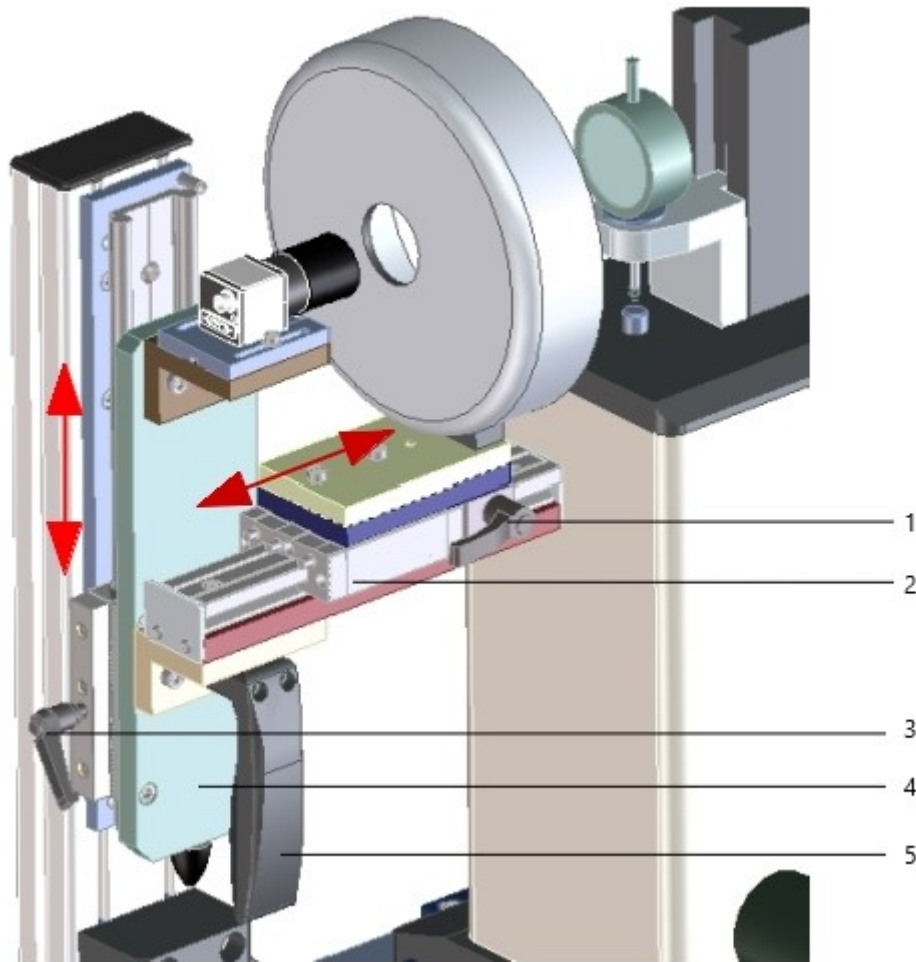

Fig. 5.2.5: Positioning of camera and lighting unit.
To position the lighting unit [Fig. 5.2.5], loosen the clamp (1) of the horizontal slide of the lighting unit (2) and move the slide horizontally until the rear side of the lighting unit is positioned in a distance of 1 - 2 mm from the camera lens (see Fig. 8). Fix the slide in this position by tightening the clamp (1).